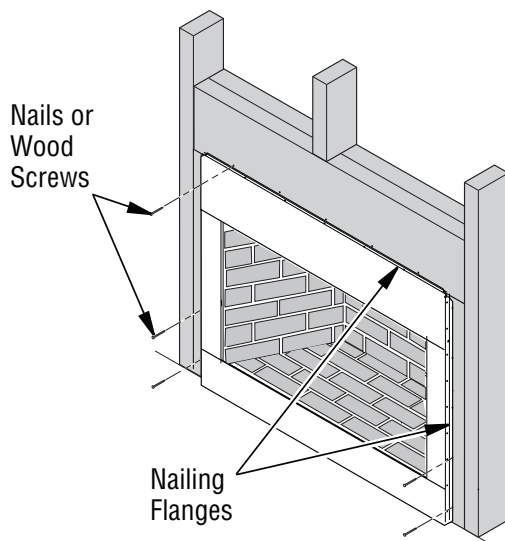

Figure 10 - Attaching Firebox to Wall Studs
5. Attach firebox to wall studs using nails or wood screws through holes in nailing flange (see **Figure 10**).